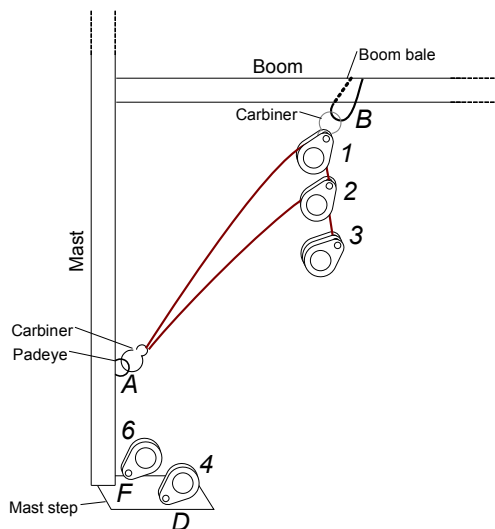

Figure 4. Rigging setup for the first and second stages, through step 11.
- 11) Attach the free end of the line to the eye/hoop of the double block (block 3). Again, you can use a splice and thimble here in the final version, but you will need to adjust this during construction (probably substantially) so don't make it permanent at this point. This completes the second stage. You should wind up with something resembling Figure 4.